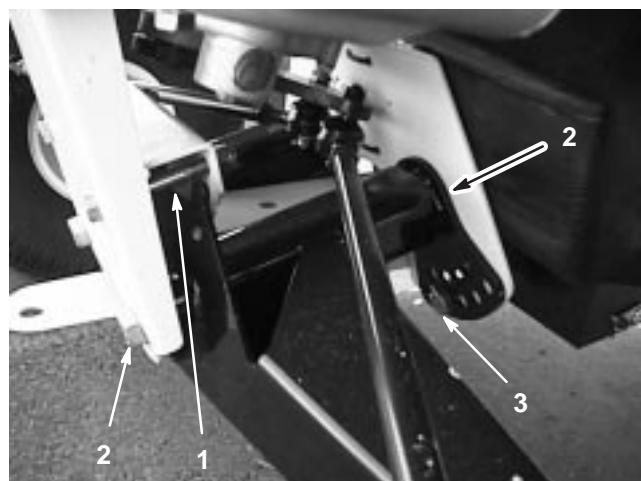

Figure 33
- 2. Remove the travel limiting bolt (Fig. 33).
- 3. Loosen the centering bolts in the front A-arm (Fig. 33).
- 4. Remove the ride height adjustment bolt (Fig. 33).
5. Rotate the front A-arm to the desired position (refer to the note below) and replace the ride height adjustment bolt (Fig. 33).
7. Replace the travel limiting bolt (Fig. 33).